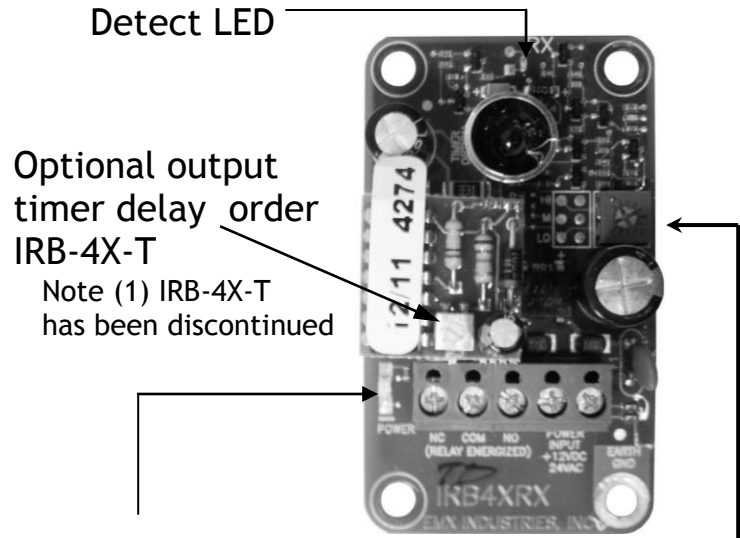

Figure 2
| Continuously adjustable single turn potentiometer figure 2                           |
| (1)IRB-4X-T has a 0 – 15 second relay timer to extend the relay output time figure 2 |
### IRB-4X Receiver connections (figure 2)